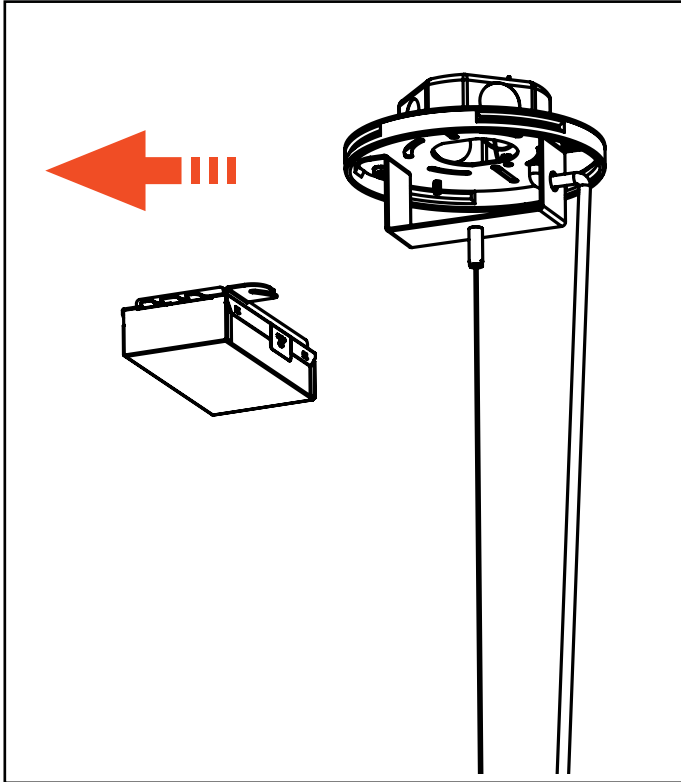

Figure 19
5. Rotate driver subassembly CCW and securely take it out along with **Driver (E)**. (Fig 19)